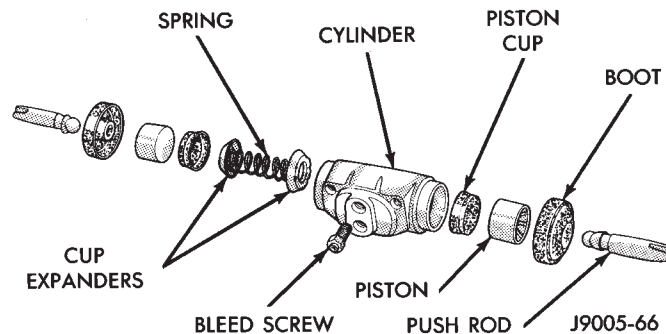

Fig. 55 Wheel Cylinder Components—Typical
- (1) Remove push rods and boots (Fig. 55).
- (2) Press pistons, cups and spring and expander out of cylinder bore.
- (3) Remove bleed screw.